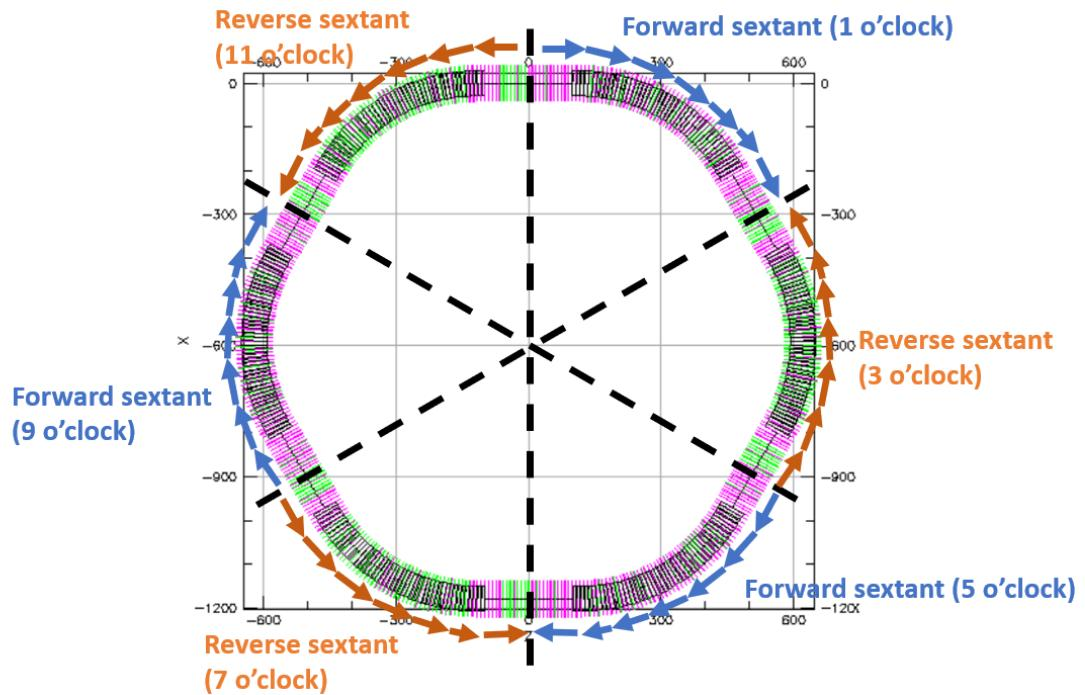
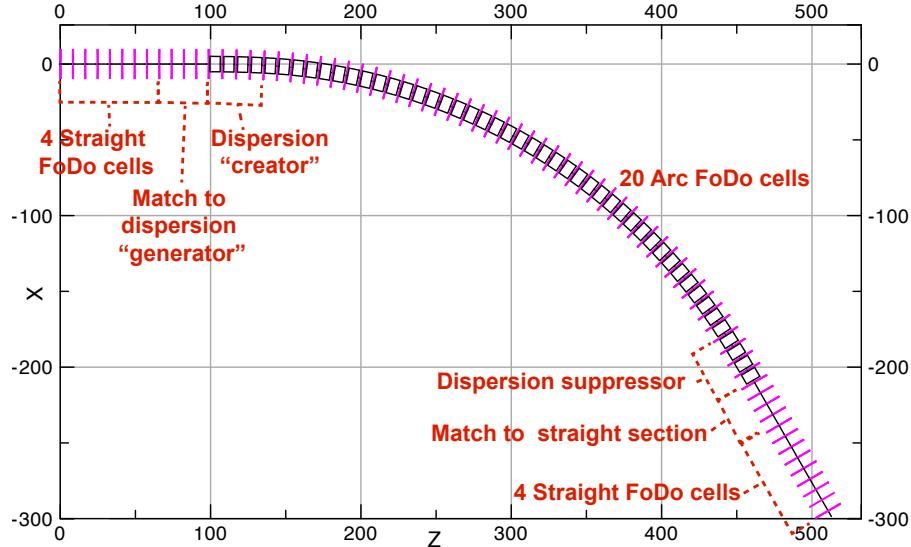

Figure 13: Mirror symmetry about the centers of each straight.
Figure 14: A sextant of the ring.
In the previous chapters, forward and reverse arc lines, forward and reverse straight section lines, and forward and reverse lines to connect the arcs to the straight sections (with dispersion suppression and matching the betas) were constructed. In this chapter, the entire ring is created based on Fig. 13. All that's left is a section to match the straight section to the arc, including dispersion "creation" and betas matching, as shown in Fig. 14.
Does this mean a dispersion "creator" for both the forward and reverse sextants needs to be created? Fortunately, no! Considering the mirror symmetry shown in Fig. 13, the quadrupole settings for the forward sextant dispersion suppression and matching are equal to the quadrupole settings for the reverse dispersion *creation* and matching. Likewise, the reverse dispersion suppression and matching quadrupole settings are equal to the forward dispersion creation and matching section quadrupoles. Therefore, no optimization is necessary here. All that is needed is to connect the lines together.
Following Fig. 14, both the matching to dispersion creator line (which we'll call **MDCF**), and the dispersion creator line itself (which we'll call **DISPCREF**) need to be constructed. Using the mirror symmetry as shown in Fig. 13, it is seen that **SS\_TO\_ARCF** will use the same quadrupole settings as in **ARC\_TO\_SSR**. Keeping with our convention of starting each line with a full horizontally-focusing quadrupole, this is
1. **Construct the reverse straight section to arc lines:** Construct SS\_TO\_ARCR using the example shown above and Figs. 13 and 14.
4. **Use Tao's place command** to display a **floor\_plan** drawing (Figs 13 and 14 are **floor\_plan** drawings). First, use **place r11 floor\_plan** to place the floor template in the plot region (use **show plot** to display the region). Then, try to adjust the drawing boundaries using **scale**, **scale all**, and **x\_scale all** commands.